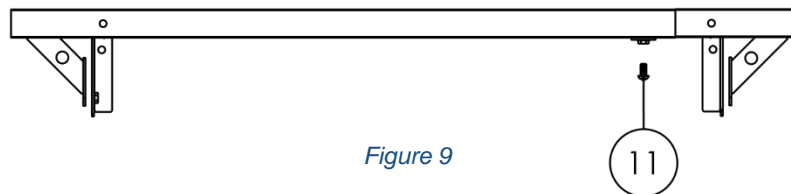

Figure 9
6. **Secure the Crossbars.** Once within the Legs (Item No. 5), lock the Crossbars' position by threading a $\frac{3}{4}$ " Button Head Screw (Item No. 11) into the position shown in Figure 9. This screw adds to the stability of the Crossbars.